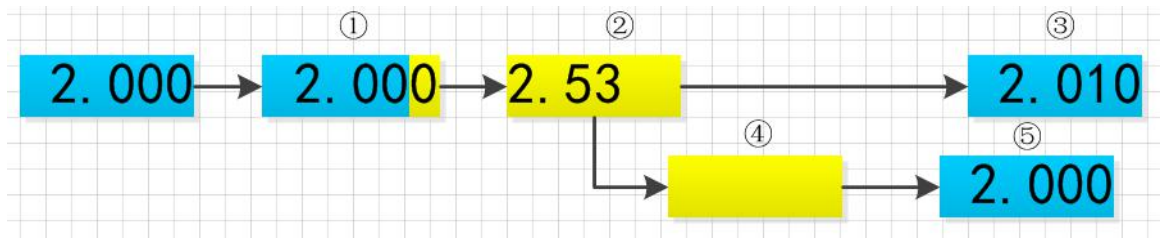

Figure 1.4.2
2. As shown in figure 1.4.2, ①press **【Enter】** to enter the edit mode. ②Press the numeric key to enter the value. ③Press **【Enter】** to confirm and exit the edit mode. Parameter setting is then completed.